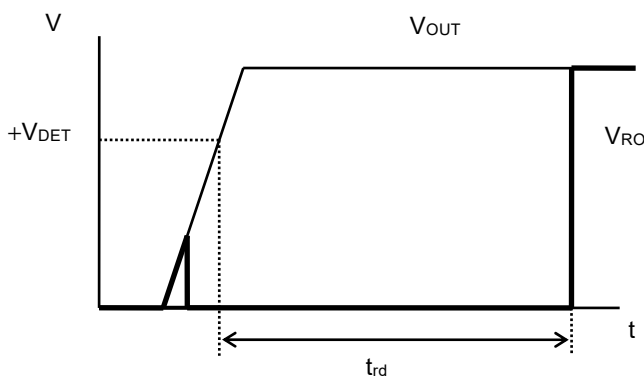

Figure 5 Release Delay Time
*3. The time from when V_{OUT} exceeds $+V_{DET}$ to when the RO pin output inverts (Refer to **Figure 5**). This value changes according to the release delay time and monitoring time adjustment capacitor (C_{DLY}).